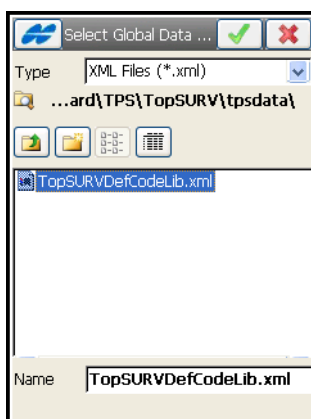

Figure 3-103. Default Code Library File
- **Browse** – tap to select an XML file to use for the Code File above (Figure 3-103).